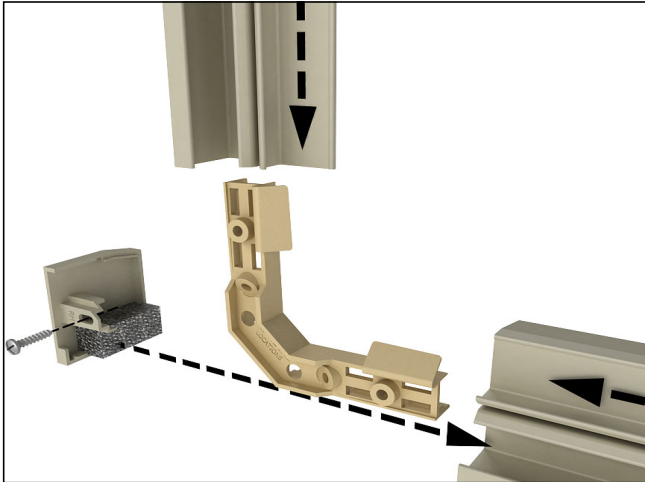

Figure 15
3. Assemble reticulated foam by pressing onto pegs making sure it covers weep hole. Attach end caps with supplied screws. See *figure 15*.